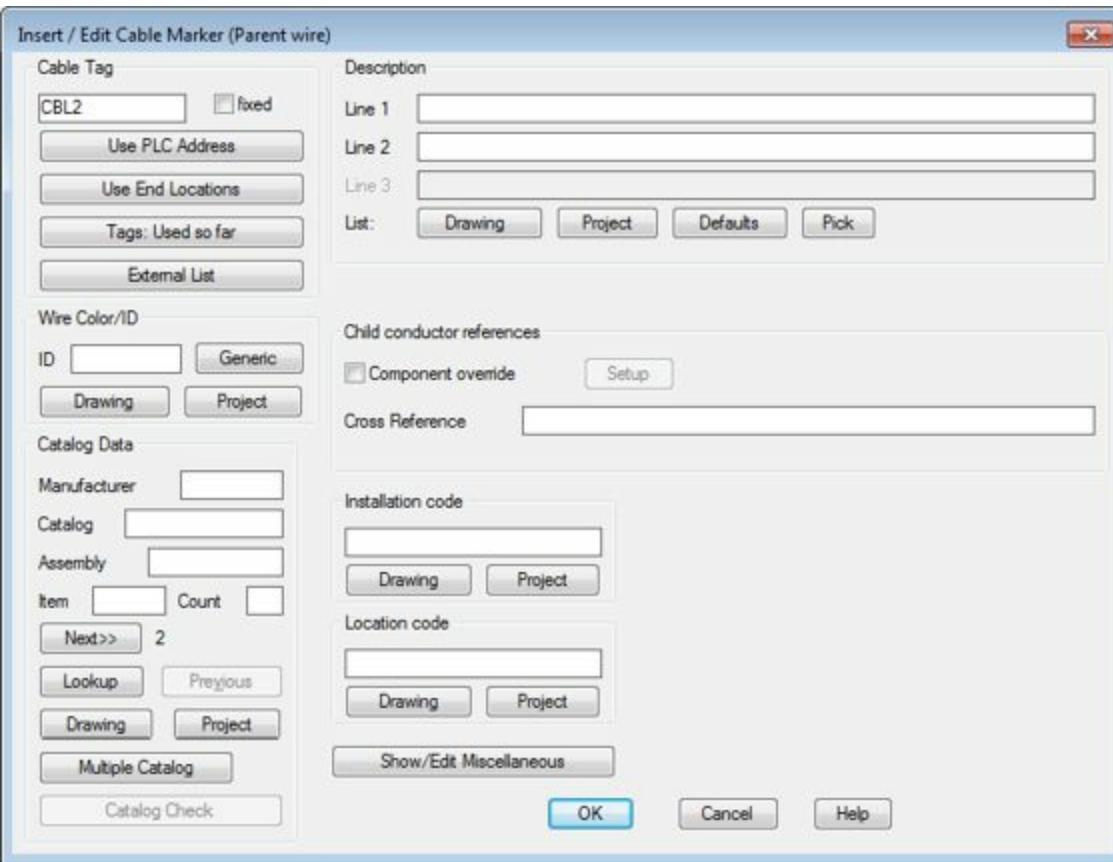

Figure-41. Insert or Edit Cable Marker dialog box
- Click on the desire symbol and then click on the wire to place the symbol. The **Insert/Edit Cable Marker (Parent wire)** dialog box will be displayed as shown in Figure-41.